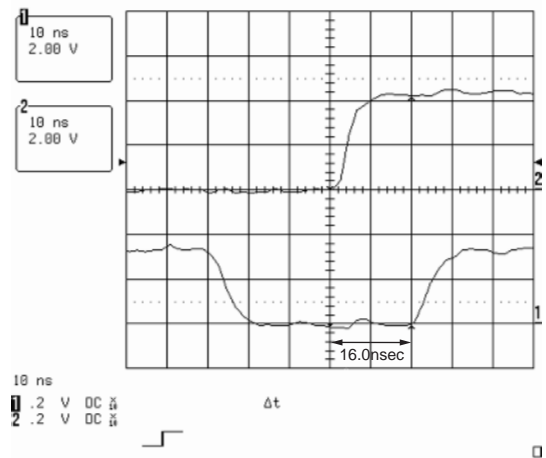

Fig. 2 CH1 HSYNC, CH2 OSD_CLK (Enlarged)
- As shown in Figure 2, adjust so that the difference between rising edge of HSYNC and the rising edge of OSD_CLK, when its L-period is long, would be 16.0 ± 5 nsec.